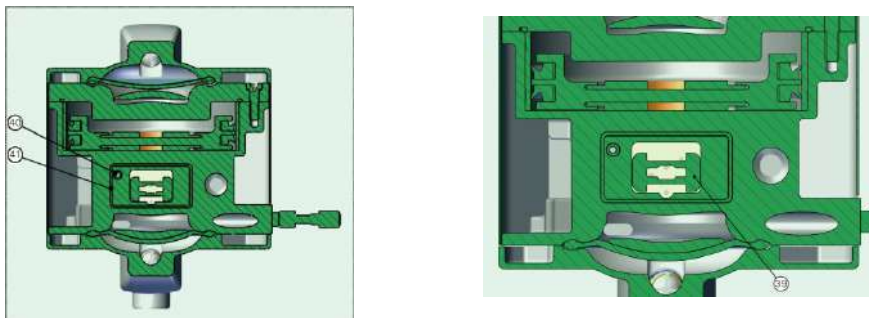

Fig. 11: Position of the ceramic plate and the pneumatic valve block
- ✓ Insert the ceramic plate (42) into the middle section of the pump so that a hole aligns with the O-ring (40) (see Fig. 11, left).
- ✓ Mount the pneumatic valve block (49) in reverse order.
- ✓ Install the piston seals (45) onto the main valve piston (48) so that the sealing lips face each other.
- ✓ Insert the main valve piston (48) into the pneumatic valve block (49).
- ✓ Reinstall the O-rings (46) on the caps (47) and mount the caps (47) from the side into the pneumatic valve block (49).
- ✓ Insert the O-ring (50) into the outer groove of the pneumatic valve block (49).
- ✓ Place the seals (43) and (44) into the groove of the pneumatic valve block (49).
- ✓ Insert the mounted pneumatic valve block (49) into the middle section of the pump.
- ✓ The mounting direction is shown by the opening on the pneumatic valve block (49) and the recess in the centre piece of the pump (see Fig. 11, right).
- ✓ Insert the main valve obturator (51) with the close side in front into the pneumatic valve block (49). The main valve obturator (51) must be inserted so that the valve (48) can move it.
- ✓ Place the seals (52), (54) and (55) into the ceramic plate (53).
- ✓ Insert the ceramic plate (53) into the pneumatic valve block (49).
- ✓ Make sure the installation is correct (side with the large seal (52) first).
- ✓ Place the seals (43) and (56) into the central part of the pump provided for this purpose.
- ✓ Install the seals (58) and (59) on the pump base (62) and insert the intermediate plate (57) into the pump base (62).
- ✓ When correctly assembled, no seal may be visible through the recesses in the intermediate plate (57).
- ✓ Tighten the pump base (62) with fillister head screws (63).